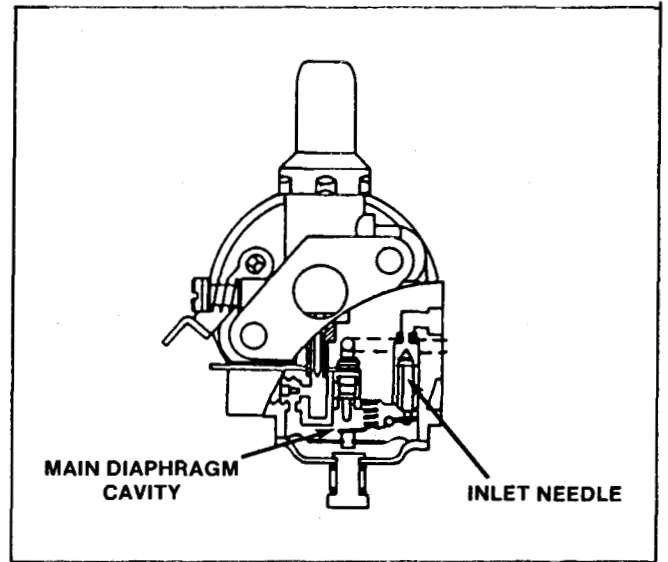

Figure 10
5. The fuel enters the main diaphragm cavity. See Figure 10.